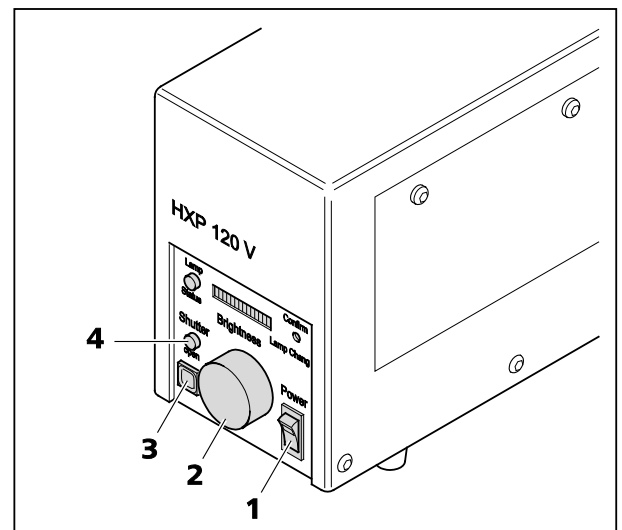

Fig. 4-4 Illumination system HXP 120 V, front
- Switch on (or off) the external white light source via the **Power** switch (Fig. 4-4/1).
- Open or close the shutter by pushing the **Shutter** button (Fig. 4-4/3). The **Shutter open** indicator (Fig. 4-4/4) shows the operating state of the shutter.
- The brightness of the white light source can be adjusted manually by actuating the turning the knob **Brightness** (Fig. 4-4/2).